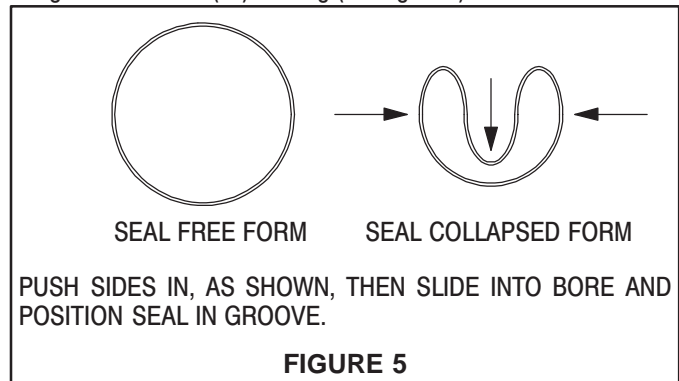

FIGURE 5
23. Thoroughly grease and install the (39 and 15) "O" rings in the (37) upper gland.
24. Bend the (38) seal in a heart shape and install in the (37) upper gland inside the (39) "O" ring (see figure 5).